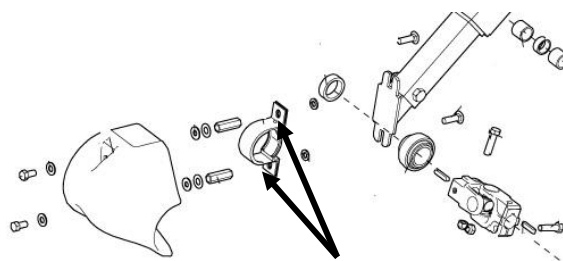

Figure 309
6. With the cover removed and the augers supported the pin that retains the left-hand auger to the center auger can be removed. Figure 309